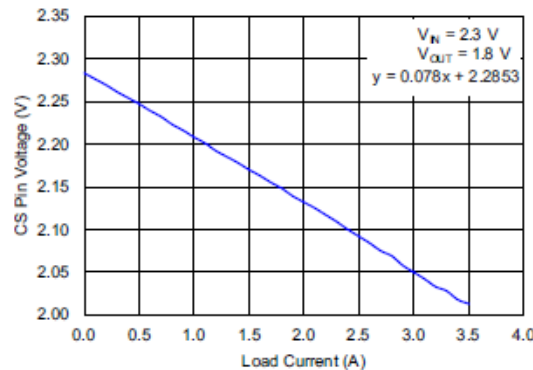

Figure 9. V_{CS} (V) vs I_{OUT} (A)
Monitoring the voltage at the CS pin will indicate voltage proportional to the output current. Figure 9 shows typical curve V_{CS} vs I_{OUT} for $V_{in} = 2.28$ V and R23 = 3.65 k Ω . A resistor connected from current sense (CS) pin to V_{IN} indicates voltage proportional to the output current.